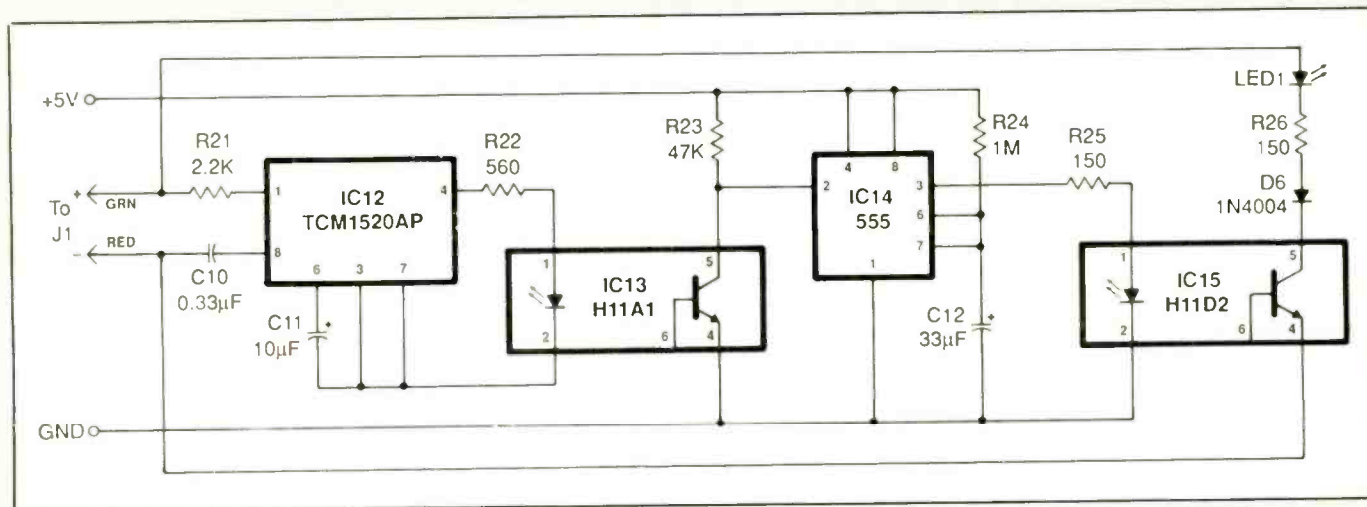

Fig. 2. Circuitry for an optional Answer Module that takes the place of a telephone answering machine.
(2) Fig. 2 6 Female 20 274-154 99
(3) 2-Row Strip. #274-670 ... 1.99
(4) Jumper. 8-pos. #274-650, 1.59
(5) 45° T-Lugs. #274-645 ... 4/79c
(6) Dual Solder-Lug Adapters. #274-644 Pkg. of 4/79c
(7) Heavy-Duty Bonded Wire. 25 ft., 2 x 18-gauge. #278-1250 ... 3.99